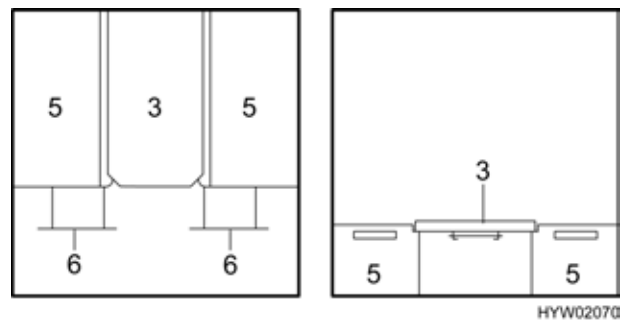

Fig. 76 During conversion
- Pull out the bedding box extension (Fig. 76,6).
- Lay the table-top (Fig. 76,3) between the two bedding boxes (Fig. 76,5).